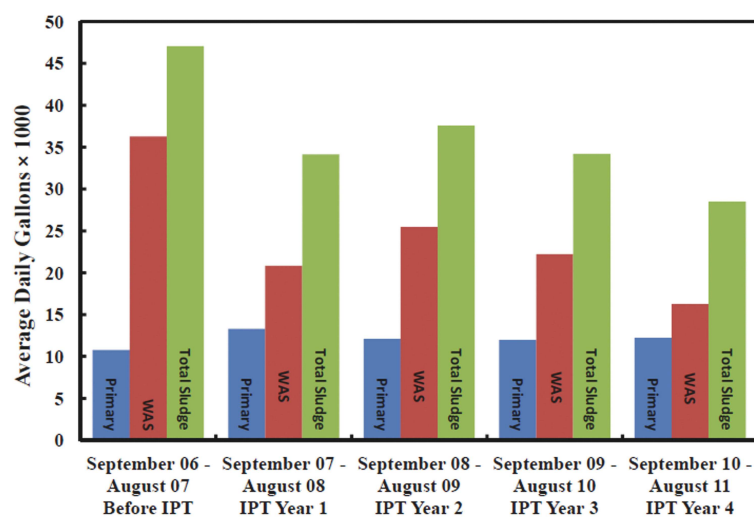

Figure 2: Production of primary sludge and WAS from the WWTP.
**Sludge Production** — Figure 2 (prior page) shows the reductions in total sludge production (primary sludge + waste activated sludge [WAS]) in each year since beginning treatment.